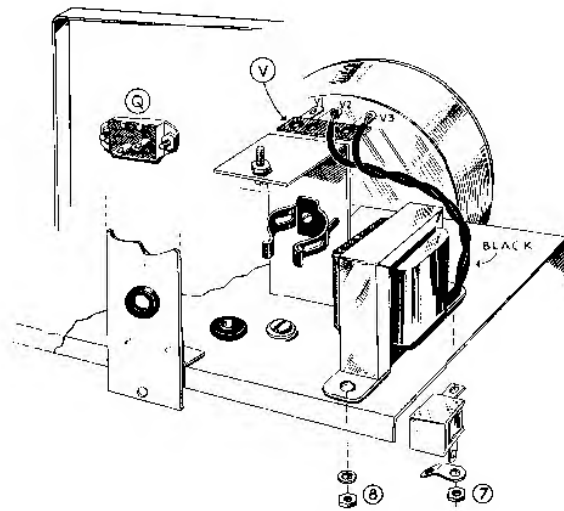

Fig. 3
- ( ) Step 6. Fasten the 3 lug terminal strip to the Z bracket by means of a 6-32 screw, lockwasher and nut. See Figure 3.
- ( ) Connect one red lead of the power transformer to A1 (S).
- ( ) Connect the other red lead to D1 (NS).
- ( ) Twist together the two yellow leads and connect one to H7 (NS).
- ( ) The other yellow lead goes to H2 (NS).
- ( ) Twist together the two black leads and connect one to V2 (NS). See Figure 3.
- ( ) The other black lead goes to V3 (NS).
- ( ) Run a wire from A2 (NS) to G1 (NS).
- ( ) Connect a 22K resistor between D1 (S) and the solder lug in location A (NS).
- ( ) Connect a 15K resistor between A2 (NS) and the solder lug in location A (S).
- ( ) Connect the positive lead (marked positive or with +++) of a 16 MFD condenser to A2 (S) and the other lead to D2 (NS).
- ( ) Run a short bare wire jumper from G1 (S) to G6 (S). Keep this jumper far enough from the pin socket holes so that it will not interfere with the tube pins when the tube is plugged in.
- ( ) Connect a piece of bare wire to G4 (NS), run it through G5 (NS), and connect it to the nearby ground lug on socket H (S).
- ( ) Connect a 10 Megohm resistor between G7 (S) and G5 (S).
- ( ) Run a wire from G9 (NS) to H7 (S).
- ( ) Run a wire from G3 (NS) to J2 (NS).